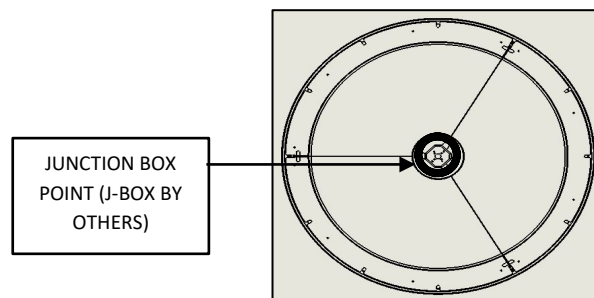

FIG. 8 - TOP VIEW SHOWING MOUNTING VIEW INFORMATION
1. Mark location for the NON-POWERED MOUNTING POINT according to the MOUNTING INFORMATION TABLE and FIG. 8.